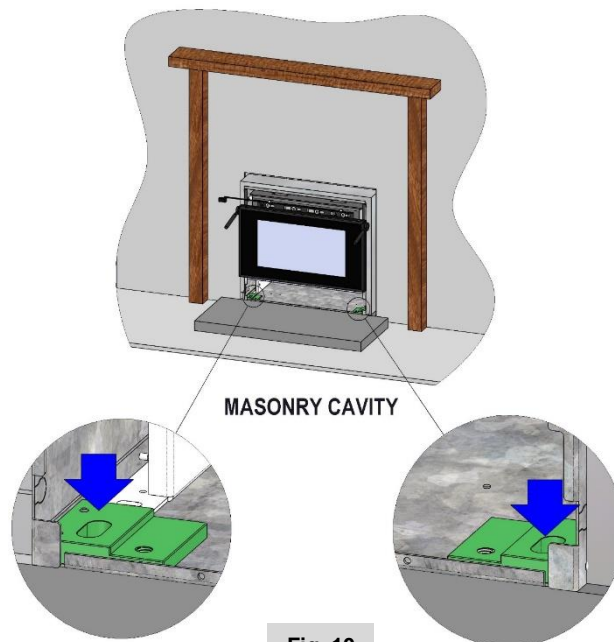

Fig. 10
- Ensure the unit is securely fixed using sleeve anchors or similar at the locations shown in the images on this page. (Fig. 10)
U5. Manoeuvre the firebox carefully into the previously prepared level cavity and securely fix. (Fig. 10)